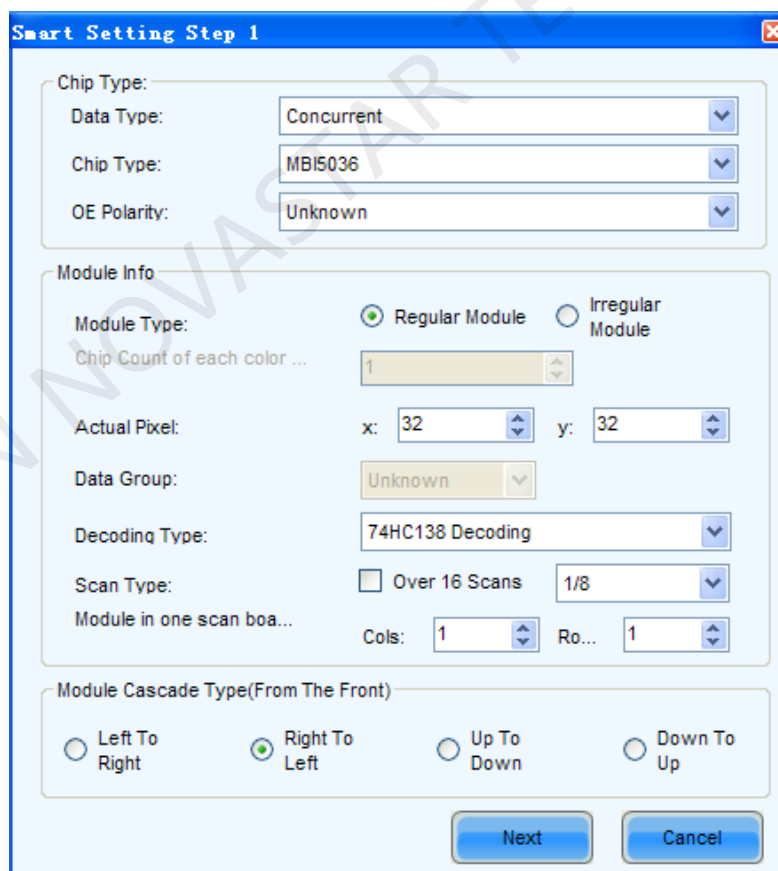

Fig. 7-5 Smart Setting Step 1
- 3) Select "Option 1: Smart setting" and click " Next" to activate smart setting wizard. The Smart Setting Step 1 page will appear, as shown in Fig. 7-5,